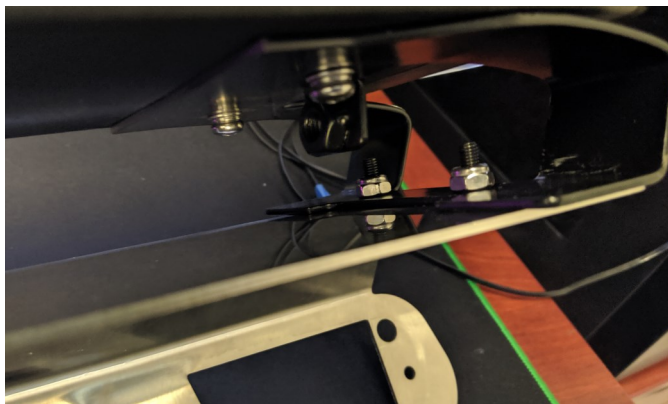

Figure 2—Installing Hornet Light onto bracket.
6. At this point, install the hornet light on to the mounting bracket using the 10-32 nuts and bolts. This will require the 1/8" Allen and the 3/8" wrench. (**Figure 2**)